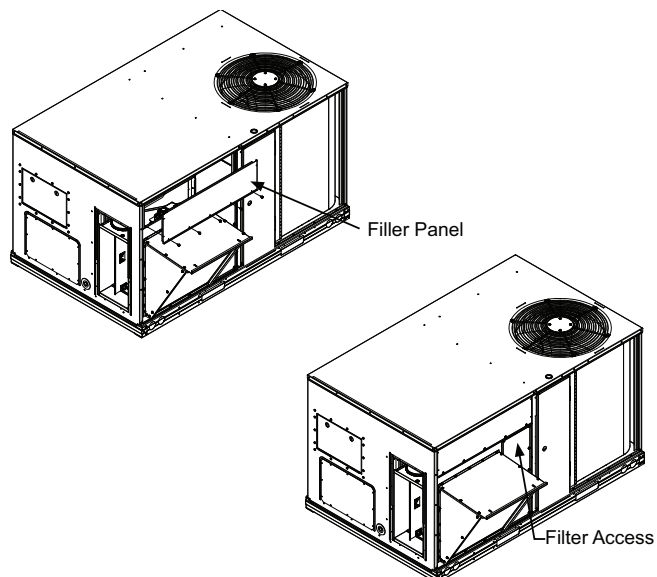

Fig. 6 — Attach Filler Panel and Hood
9. Attach filter panel above O/A panel. Slide under RTU (Packaged Rooftop Unit) top flange then drop down until bottom mount holes align with top holes on O/A panel. Fasten with provided sheet metal screws. (See Fig. 6.)
10. Install the O/A hood to the O/A panel over the EconoMiSer assembly. Use screws provided. (See Fig. 6.)
12. Attach the O/A hood assembly to the OA panel with included screws. (See Fig. 6.)